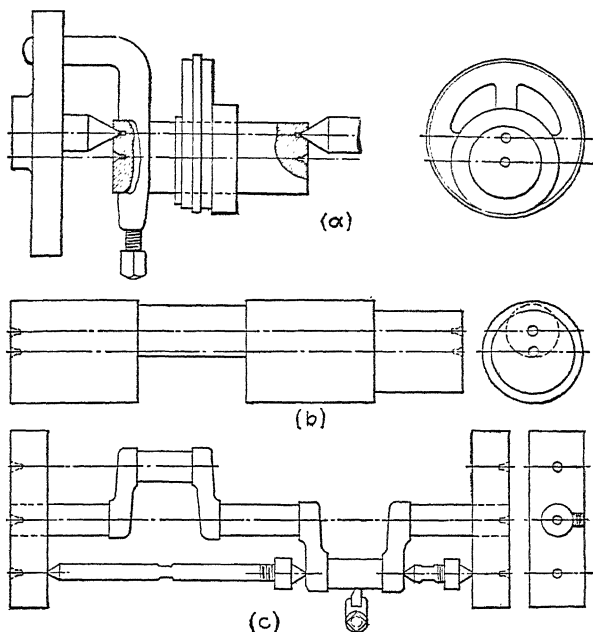

FIG. 113.
is said to be turned eccentric. The work itself may be called an "eccentric" (a) or a "crankshaft" (b) and (c), Fig. 113. Both are much used in machine construction to convert rotary into reciprocal motion or the contrary. To turn the eccentric surface it is necessary to provide centers offset from the centers of the normal axis an amount equal to one-half the
"throw" desired, that is, one-half the amount of the reciprocating motion to be imparted or converted as the case may be. Three methods of providing the offset centers for turning eccentric cylindrical surfaces are illustrated in Fig. 113. An eccentric (a) is usually keyed to a shaft when in use and consequently is located on a mandrel, by a key or by a witness mark, and then turned. A mandrel with offset centers is shown in (a). The crankshaft (b) is itself provided with an extra pair of centers. When the amount of eccentricity is too great to
40. Using one or more V blocks and a surface gauge how would you proceed to lay out the positions of the two pairs of centers in (b) Fig. 113?